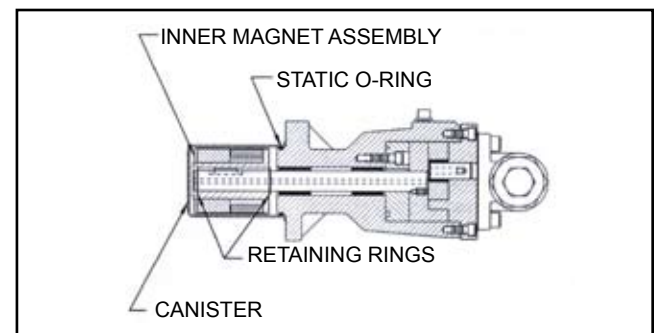

FIGURE 13
- Remove the external retaining ring (closest to the end of the shaft) and slide off the inner magnet assembly (See Figure 13). Do not forget this is a very strong magnet. If pump disassembly is required, remove second external retaining ring.